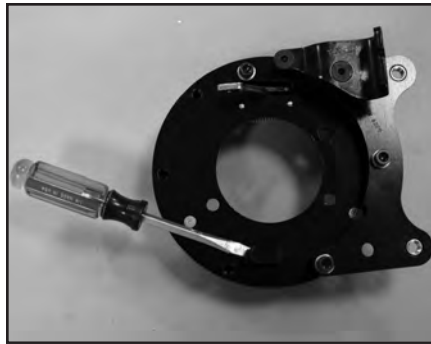

Figure 15
- Adjust the internal parking brake shoes by removing the dust cover from the inboard side of the backing plate, figure 15.